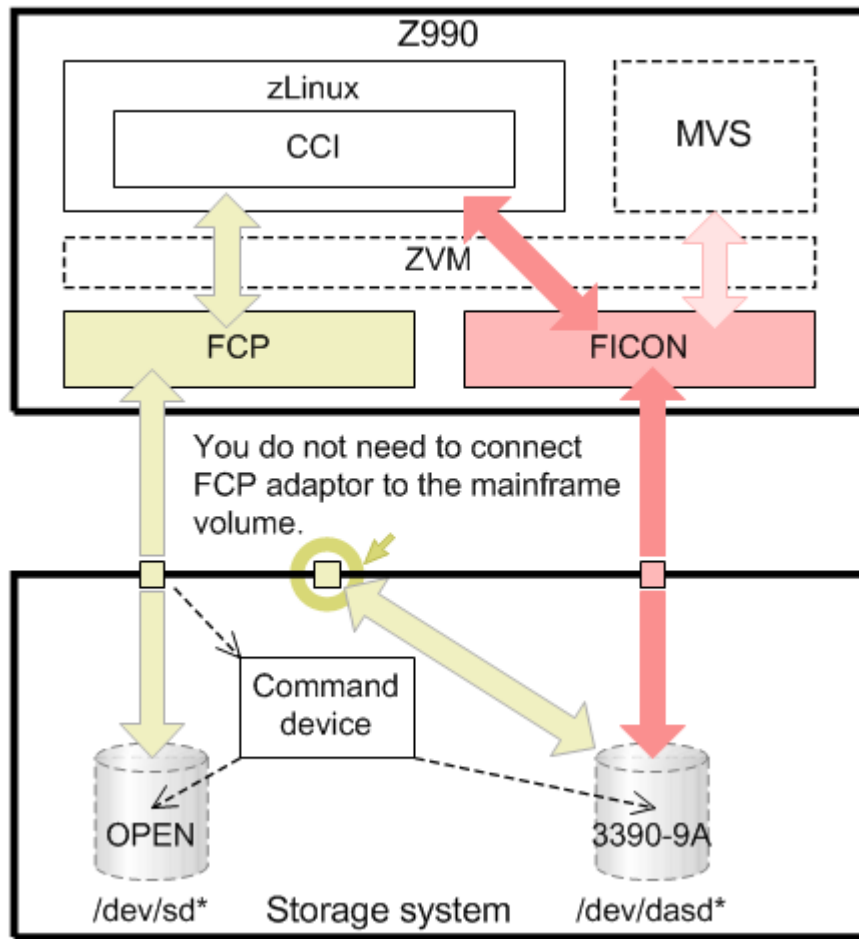

Figure 1-1 Example of a CCI Configuration on z/Linux
- **Mainframe (3390-9A) Volumes via FICON.** You cannot control the volumes (3390-9A) that are directly connected to FICON for ShadowImage pair operations. Also, mainframe volumes must be mapped to a CHF(FCP) port to access target volumes using a command device, as shown in Figure 1-1 Example of a CCI Configuration on z/Linux on page 1-9. The mainframe volume does not have to be connected to an FCP adaptor.